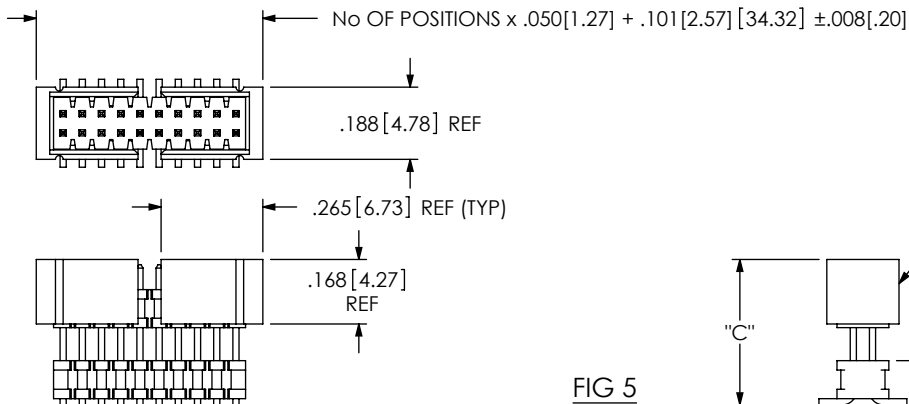

FIG 5
- ES: END SHROUDS (SEE FIG. 5, SHT 2)